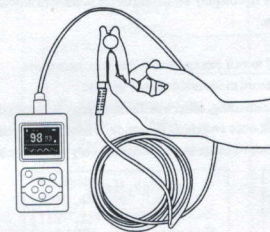

Figure 6. Sketch map for finger placement
- ⚠ The finger should be placed correctly (see Attached figure 6), as improper installation or improper contact position of the sensor will influence the measurement.
- Insert the finger into the probe as shown in Figure 6.
(The appearance of actual probe may be different with the one shown as Figure 6, please refer to the actual probe.)